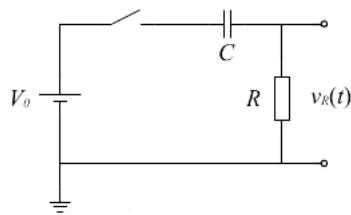

Figure 6 The circuit for problem 2.
2. RC circuits can be used as the timing mechanism in an electronic clock, where the resistor and capacitor are chosen to yield an appropriate τ_{RC} . For the circuit shown in Figure 6, we saw previously that the voltage across the resistor is given as